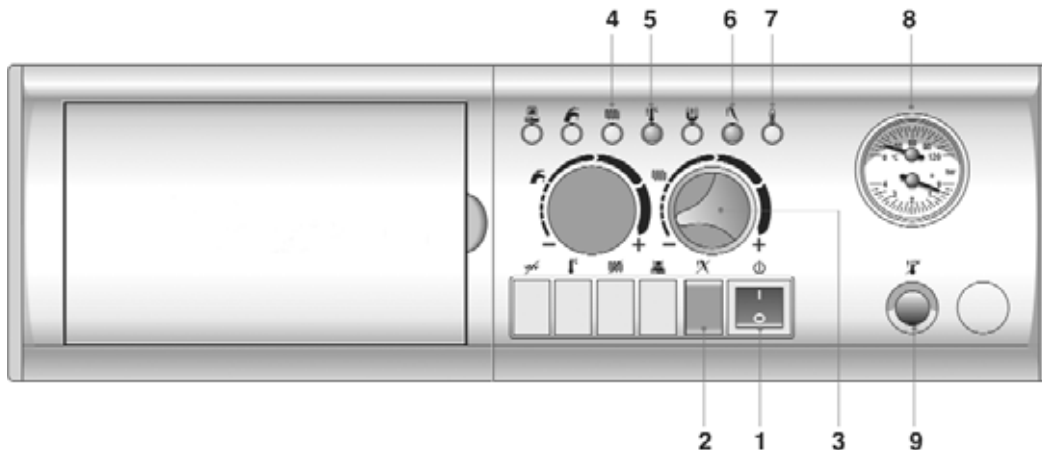

fig. 1
1.2 Operating the Boiler (Fig. 1)